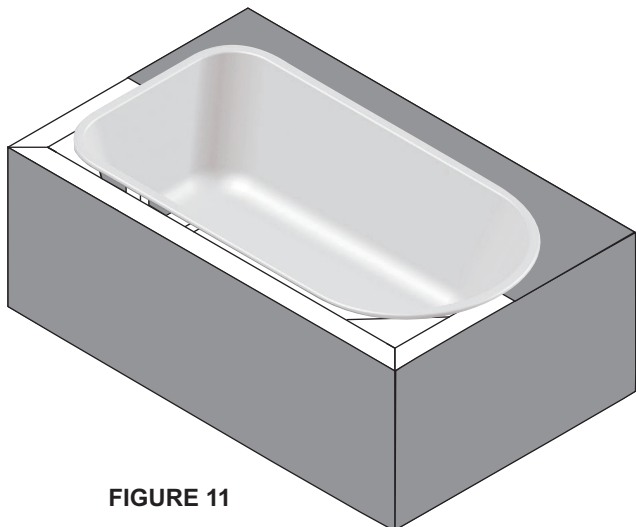

FIGURE 11
- Carefully place the tub as shown in figure 11.